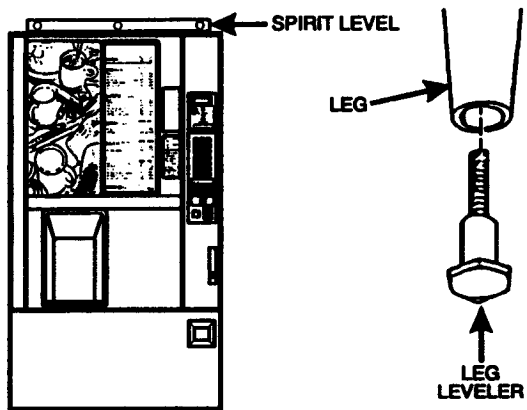

FIGURE 1
- a. Place a spirit level on the top front edge of the cabinet with the door fully closed. Adjust the front legs only until the cabinet is reasonably level (figure 1).